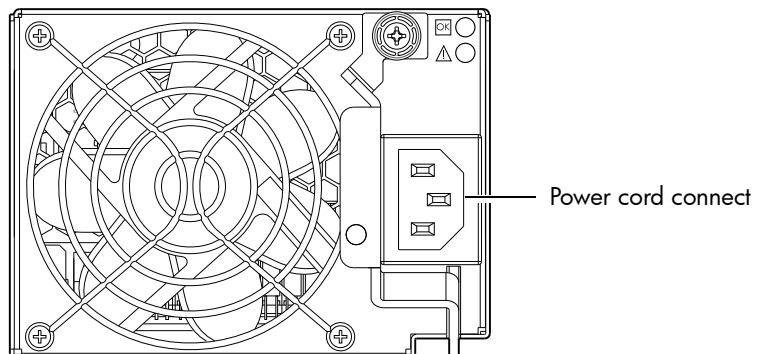
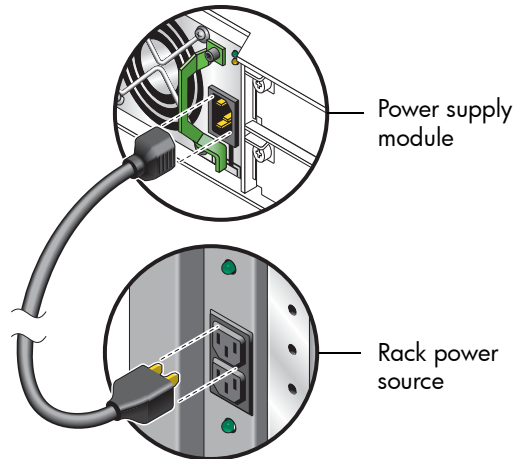
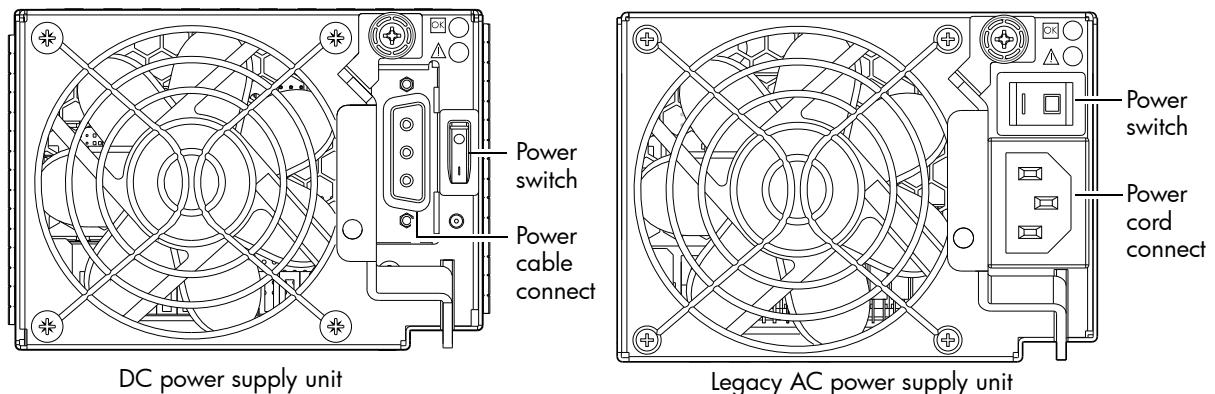

Figure 11 AC PSU
Figure 12 AC power cord
Figure 13 DC and AC PSUs with power switch
1. Plug the power cord into the power cord connector on the back of the drive enclosure. Plug the other end of the power cord into the rack power source (see Figure 11 and Figure 12). Wait several seconds to allow the disks to spin up.
2. Plug the power cord into the power cord connector on the back of the controller enclosure. Plug the other end of the power cord into the rack power source (see Figure 11 and Figure 12).
See Figure 14 and the illustration at left (in Figure 13) when performing the following steps:
Obtain two suitable AC power cords: one for each AC power supply that will connect to a separate power source. See Figure 12 on page 26 and the illustration at right in Figure 13 when performing the following steps: